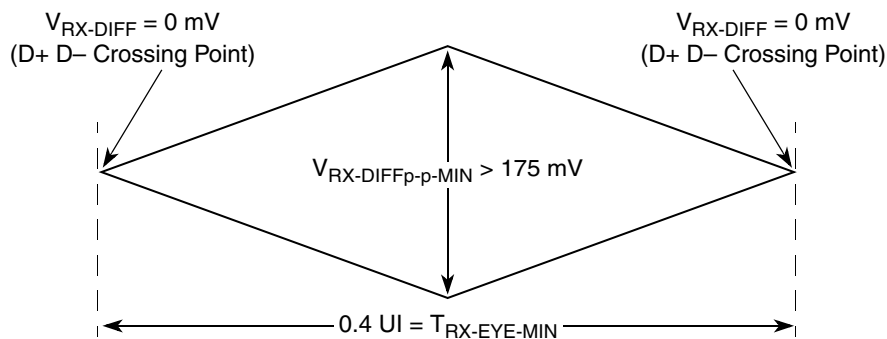
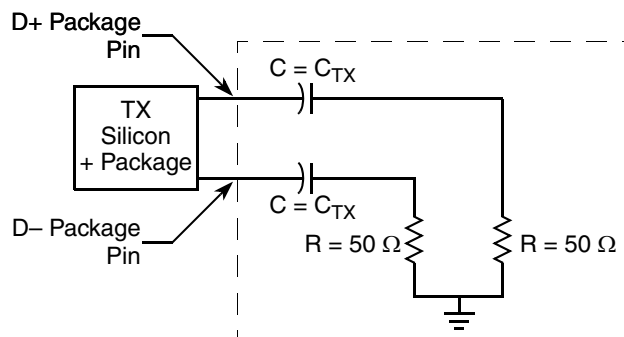

Figure 49. Minimum Receiver Eye Timing and Voltage Compliance Specification
Figure 50. Compliance Test/Measurement Load
2. Specified at the measurement point into a timing and voltage compliance test load as shown in Figure 50 and measured over any 250 consecutive TX UIs. (Also see the transmitter compliance eye diagram shown in Figure 48.)
4. The transmitter input impedance shall result in a differential return loss greater than or equal to 12 dB and a common mode return loss greater than or equal to 6 dB over a frequency range of 50 MHz to 1.25 GHz. This input impedance requirement applies to all valid input levels. The reference impedance for return loss measurements is 50 Ω to ground for both the D+ and D– line (that is, as measured by a vector network analyzer with 50- Ω probes—see Figure 50). Note that the series capacitors C_{TX} is optional for the return loss measurement.
5. Measured between 20%–80% at transmitter package pins into a test load as shown in Figure 50 for both $V_{\text{TX-D+}}$ and $V_{\text{TX-D-}}$.
The TX eye diagram in Figure 48 is specified using the passive compliance/test measurement load (see Figure 50) in place of any real PCI Express interconnect +RX component.
- Specified at the measurement point and measured over any 250 consecutive UIs. The test load in Figure 50 must be used as the RX device when taking measurements (also see the receiver compliance eye diagram shown in Figure 49). If the clocks to the RX and TX are not derived from the same reference clock, the TX UI recovered from 3500 consecutive UI must be used as a reference for the eye diagram.
- The receiver input impedance shall result in a differential return loss greater than or equal to 15 dB with the D+ line biased to 300 mV and the D– line biased to –300 mV and a common mode return loss greater than or equal to 6 dB (no bias required) over a frequency range of 50 MHz to 1.25 GHz. This input impedance requirement applies to all valid input levels. The reference impedance for return loss measurements for is 50 Ω to ground for both the D+ and D– line (that is, as measured by a vector network analyzer with 50- Ω probes—see Figure 50). Note: that the series capacitors CTX is optional for the return loss measurement.
The RX eye diagram in Figure 49 is specified using the passive compliance/test measurement load (see Figure 50) in place of any real PCI Express RX component.
Note: In general, the minimum receiver eye diagram measured with the compliance/test measurement load (see Figure 50) is larger than the minimum receiver eye diagram measured over a range of systems at the input receiver of any real PCI Express component. The degraded eye diagram at the input receiver is due to traces internal to the package as well as silicon parasitic characteristics which cause the real PCI Express component to vary in impedance from the compliance/test measurement load. The input receiver eye diagram is implementation specific and is not specified. RX component designer must provide additional margin to adequately compensate for the degraded minimum receiver eye diagram (shown in Figure 49) expected at the input receiver based on some adequate combination of system simulations and the return loss measured looking into the RX package and silicon. The RX eye diagram must be aligned in time using the jitter median to locate the center of the eye diagram.
The reference impedance for return loss measurements is 50. to ground for both the D+ and D- line (that is, as measured by a vector network analyzer with 50-Ω probes—see Figure 50). Note that the series capacitors, CTX, are optional for the return loss measurement.
The AC timing and voltage parameters must be verified at the measurement point, as specified within 0.2 inches of the package pins, into a test/measurement load shown in Figure 50.